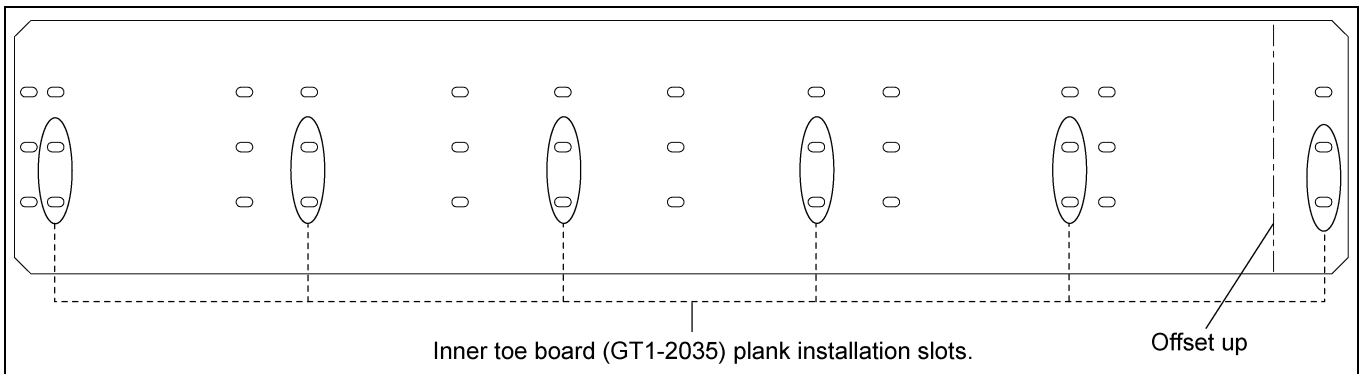

Figure 4K 24' Inner Toe Board (GT1-2035)
3. Inner toe board (GT1-2035) is arranged with many slots to install plank. Install planks to corresponding slots as shown in Figure 4K.